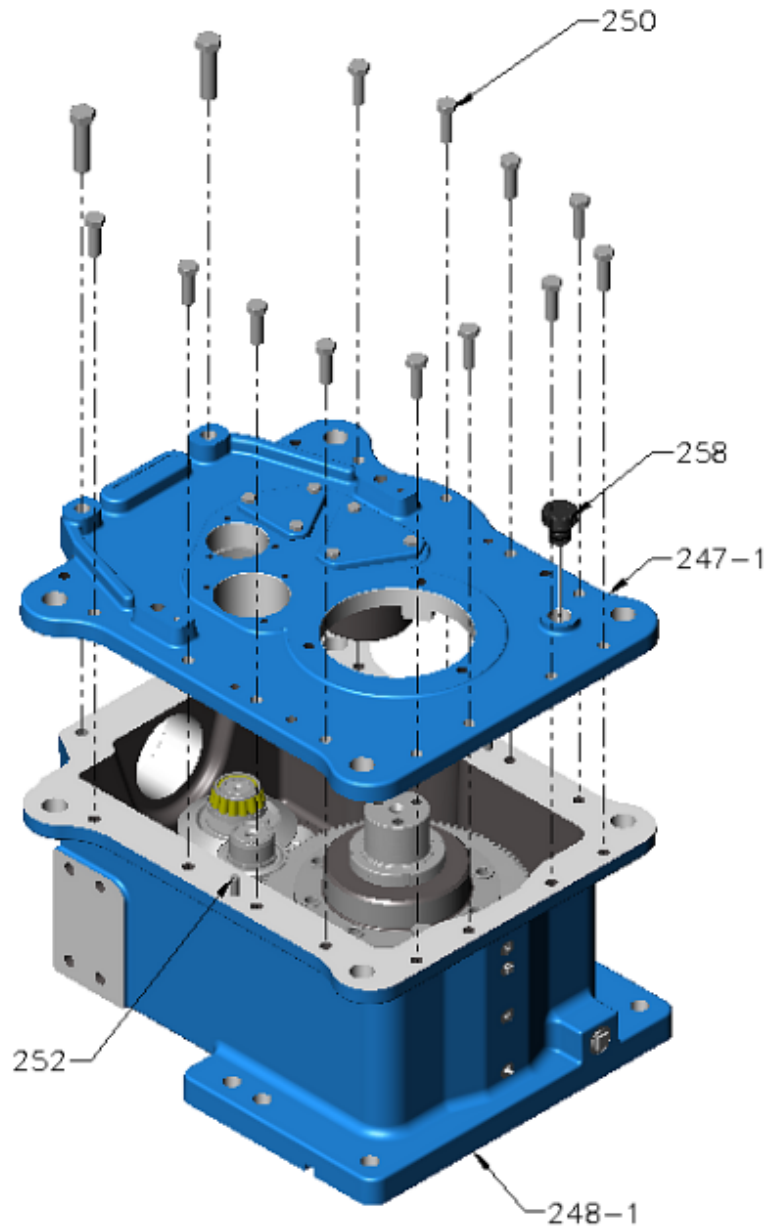

Figure 26 – Case Lid
- U. Install case lid **[247-1]** (refer Figure 26).
- (1) Apply Three Bond Sealant 1215AA or equivalent to case bottom flange
- (2) Put case lid **[247-1]** on case bottom
- (3) Install dowel pins **[252]**
- (4) Install bolts **[250]** and torque-tighten to value given in Table 1
- (5) Insert dip stick **[258]**